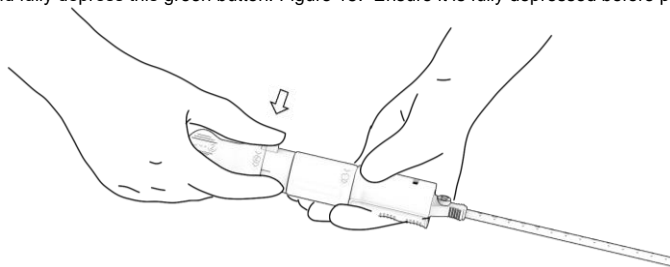

**Figure 14. Removal of guidewire.**
- a. Locate indicator marked '3' and remove the guidewire completely from the patient and PerQseal® closure device. Guidewire removal may be done by an assistant. Figure 14.